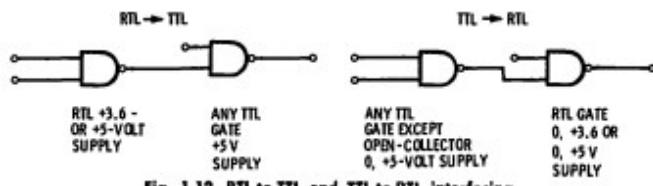

Fig. 1-12. RTL-to-TTL and TTL-to-RTL interfacing.
Interfacing between logic families is usually easy to do, but there are several problems. You must select the supply and ground connections between the families to optimize the logic states. You have to honor the output voltage and current swings of the one logic family and provide the minimum 1 and 0 conditions of the other. For detailed interfacing information, you have to carefully study the manufacturer's data on the IC line to be interconnected. However, Figs. 1-12 through 1-16 give some general interface guidelines that usually work.
**RTL**-RTL to TTL or vice versa may be directly connected (Fig. 1-12). Grounds of both systems are common, and the RTL may be driven from its usual 3.6-volt positive supply or from a 5-volt TTL supply. No RTL loads should be presented to an RTL device that is driving TTL.